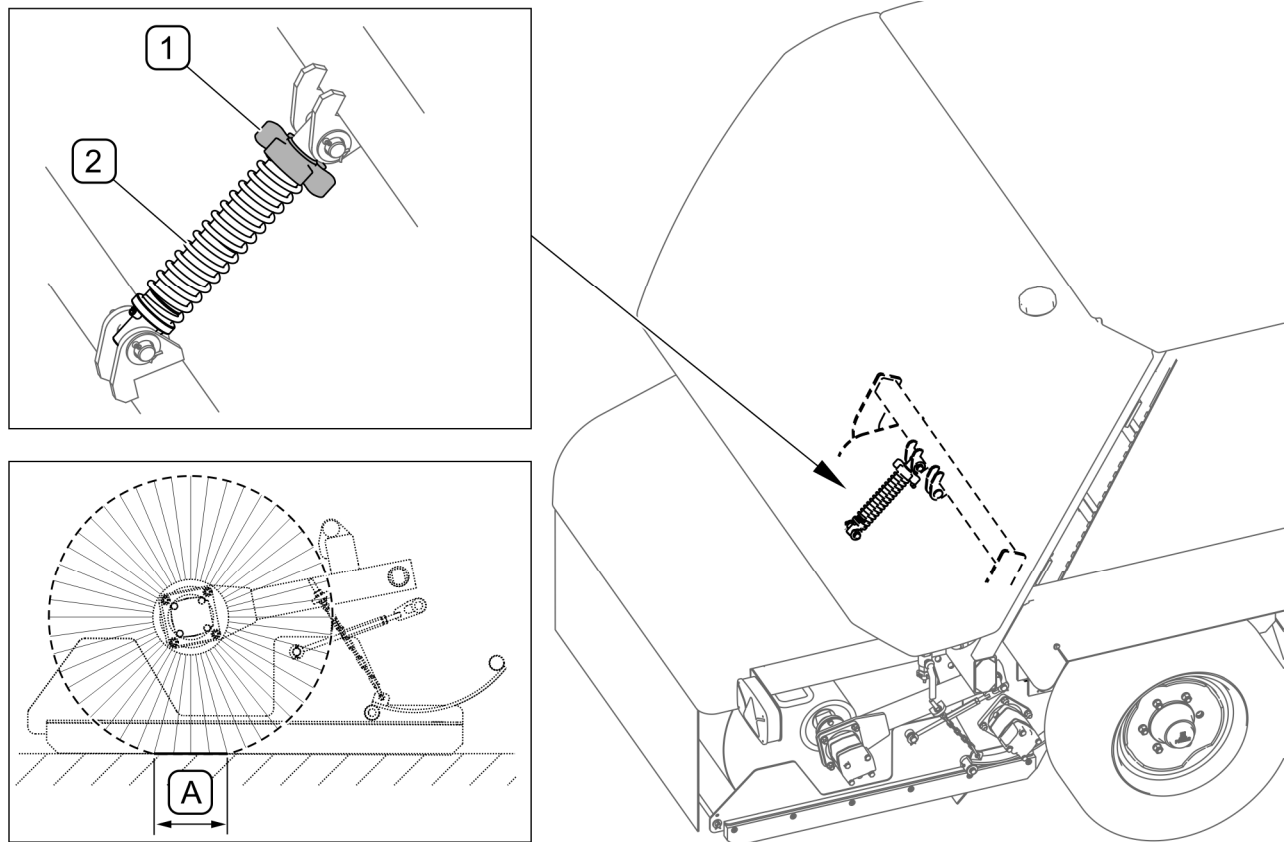

FIG. 5.7 Adjustment of roller brush pressure
Surface of roller brush pressure (A) to the ground should be within 100 - 150 mm (FIG. 5.7). Setting the roller brush pressure involves the adjustment of spring (2) tension and is carried out by means of nut (1). Excessive pressure of brush on the surface increases wear of brush.